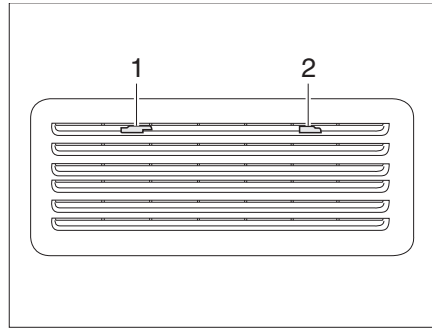

Fig. 349 Refrigerator ventilation grill (Thetford)
- Move the locking device (Fig. 349,1) to the middle.